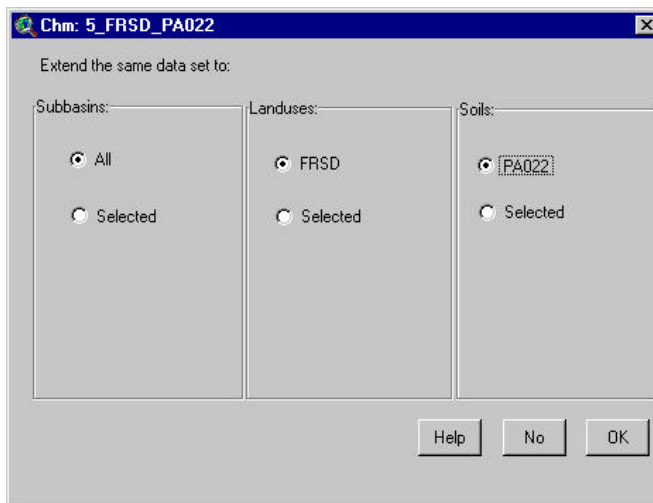

Figure 12.80
6. If the user saves the modified values, once the values are saved for the HRU (by clicking **OK** in Step 3), a new dialog box is displayed allowing the user to copy the modifications to other HRU data sets (Figure 12.80).